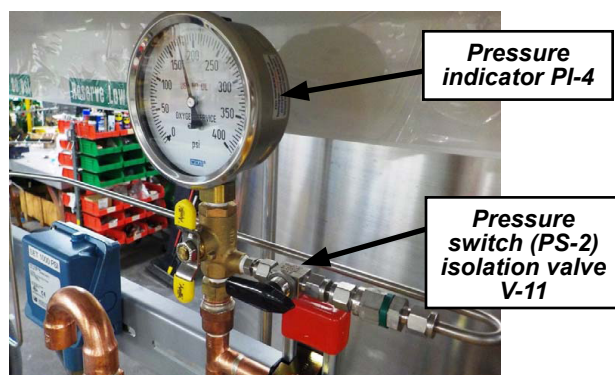

Figure 16 - Pressure valves
- Open valve V-11 (see Figure 16) to apply pressure to PS-2 and PI-5. Close valve V-11 and allow pressure to exhaust out of the downstream purge port on the valve. Repeat this process of opening and closing V-11 three to four times in order to purge the instrument line. After purging line, leave valve V-11 open.
- Open valve V-11 (see Figure 16).